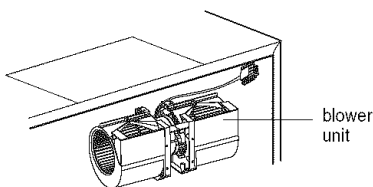

Figure 20
4. Rotate blower unit 90° so the exhaust ports face the top of the cabinet. See Figure 20.